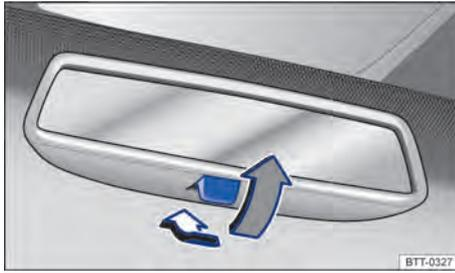

Fig. 76 On the windscreen: manual anti-dazzle interior mirror.
- Night position: pull the lever → Fig. 76 (grey arrow) to avoid headlight dazzle from vehicles coming from behind.